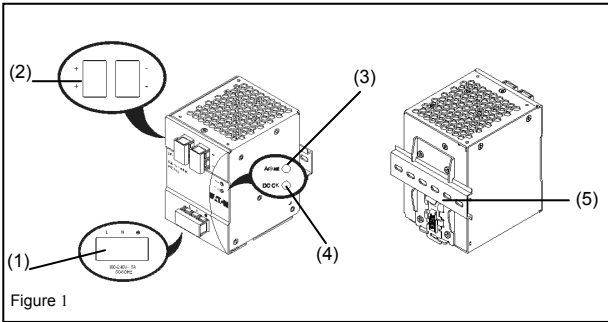

Figure 1
### 2. Device description (Fig. 1)
### 5.1. Input connection (Fig. 1 and Fig. 5)
### 5.2. Output connection (Fig. 1 (2))
Use the "+" and "-" screw connections to establish the 24 VDC connection. The output provides 24 VDC. The output voltage can be adjusted from 22 to 28 VDC on the potentiometer. The green LED DC OK displays correct function of the output (Fig. 1 (4)).